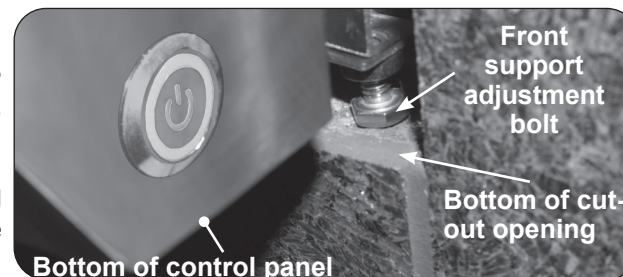

Fig. 21-3 Front support adjustment bolts
2. Rotate the front support adjustment bolts (up or down) until the pizza oven hanger rests flush on the countertop, AND, the adjustment bolts are touching the supporting structure found at the bottom of the cutout (lower support). Use a 7/16" open-end wrench as needed. See Fig. 21-3.